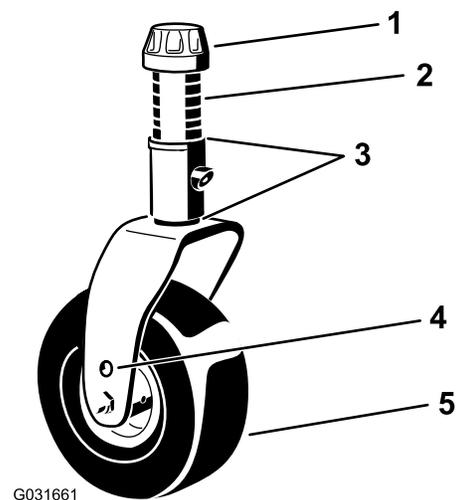

Figure 34
4. Using the supplied caster-cap wrench, loosen the tensioning cap and remove it from the caster-spindle shaft and slide the caster shaft out of the caster arm (Figure 34).
7. Install the shims (as originally installed) and the remaining spacers onto the shaft (Figure 34).
8. Install the tensioning cap and tighten it with the supplied caster-cap wrench to secure the assembly (Figure 34).